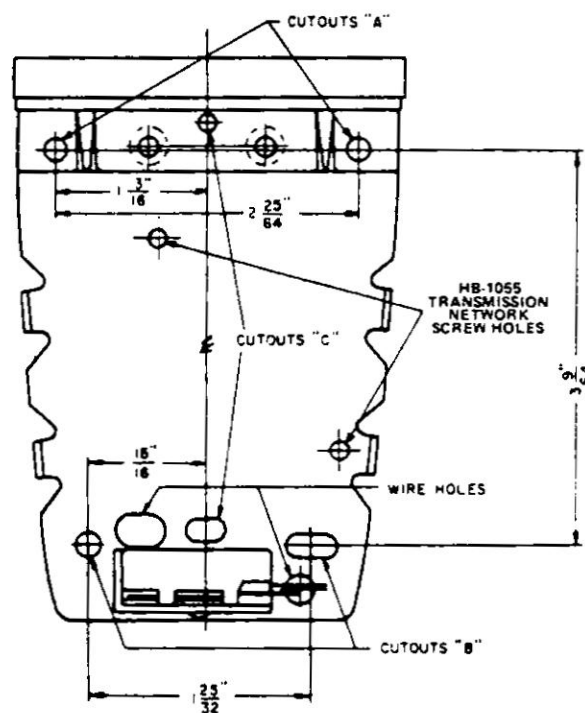

Figure 7. Baseplate Diagram.
- (f) Replace the transmission network, and place the two transmission network standoffs into position over the screw holes in the baseplate (Figure 7).
4.15 For self-compensating transmission networks having spanish terminals (Figure 7), connect the capacitors between terminals 23 and 4, 2 and 5 and 5 and 1.